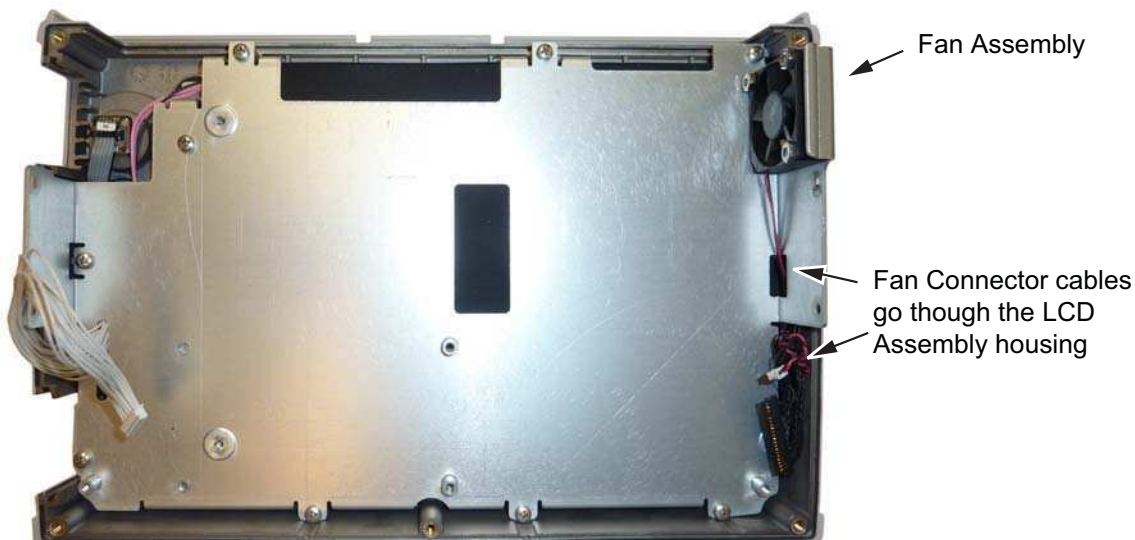

Figure 7-7. Front Panel Keypad Bezel
3. Remove the 3 screws and nuts holding the Fan Assembly to the LCD Assembly housing. Refer to (Figure 7-7).